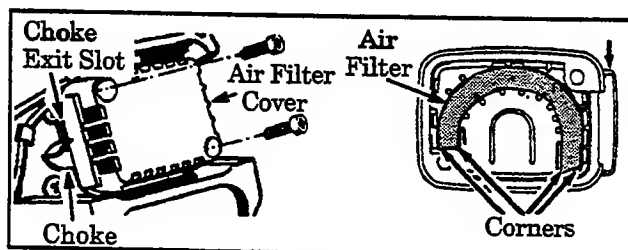

Figure 24
- a. Loosen the two screws on the air filter cover enough to remove the cover from the engine. Figure 24.
- b. Remove air filter from cover. Figure 24.
- e. Reinstall the air filter cover, making sure the choke exit slot (Figure 24) is placed over the choke lever.